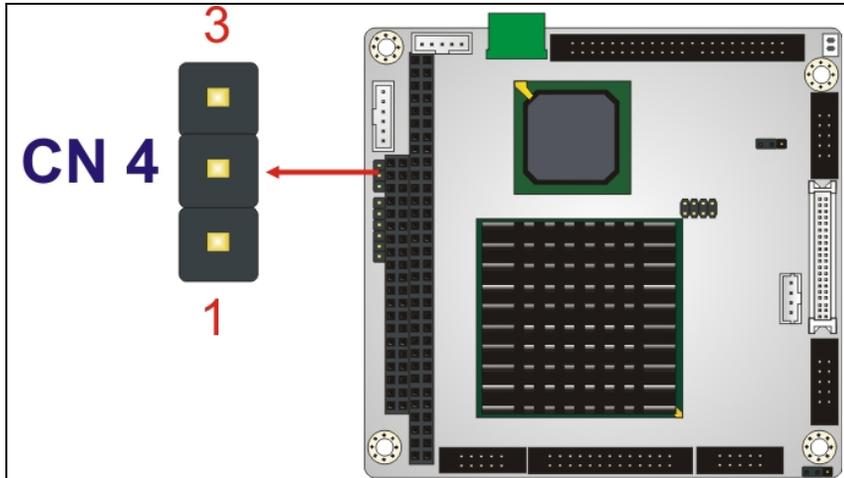

Figure 3-4: -12V Power Connector Location
- CN Location:** See **Figure 3-4**